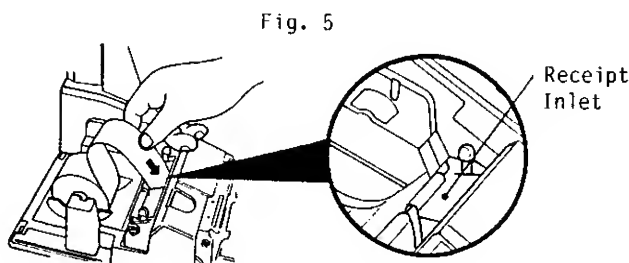

Fig. 5
6. Insert the paper end into the Receipt Inlet, feed the paper in while pressing down the [RF] key. (Fig. 5)